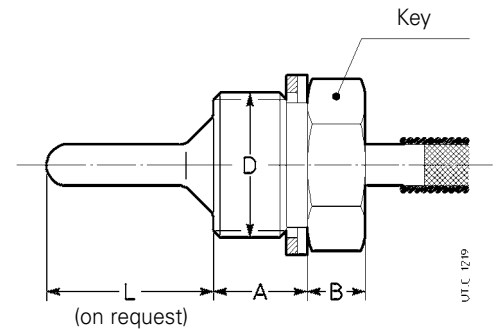

Fig. 2
Hole dimensions for gear reducer casing and eventual manifold C (see fig. 2):
- dimensions according to gear reducer size (see Fig. 2).